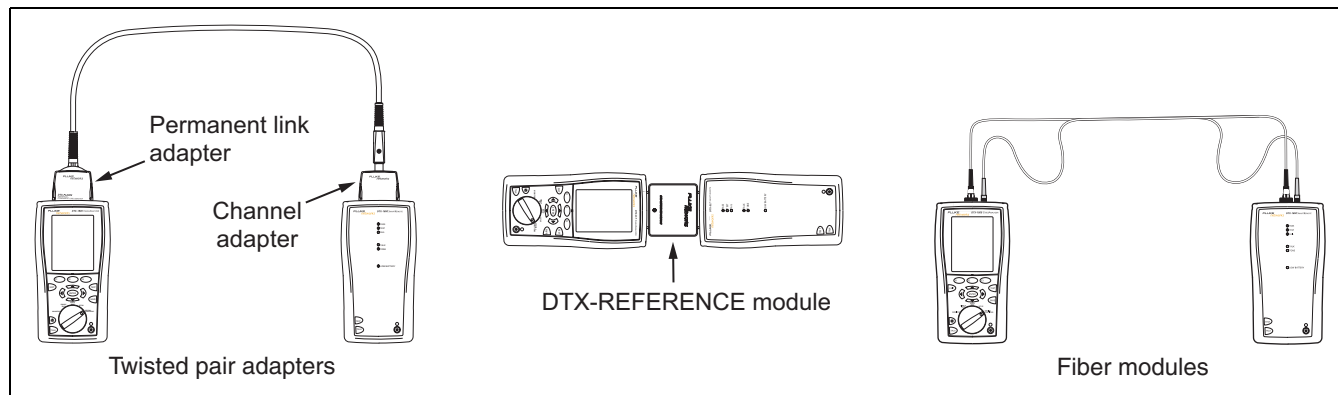

Figure 1-10. Self Test Connections
- 1 Connect the main and remote testers using one of the methods shown in Figure 1-10.
- 1 Connect the tester and smart remote through adapters, as in Figure 1-10.